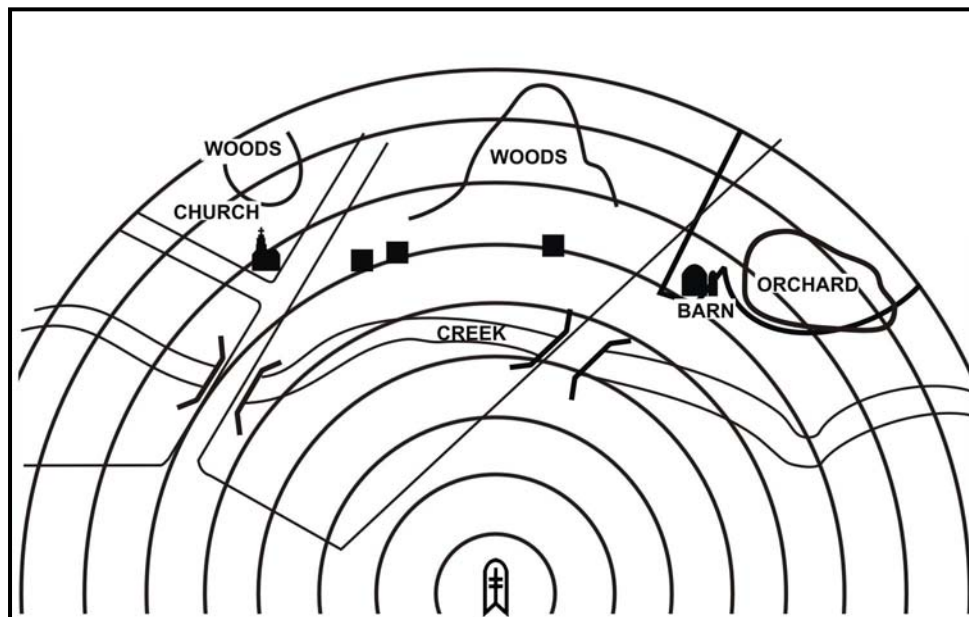

Figure D-5. Sector sketch.
The sector sketch section is a graphic representation of a gunner's sector of fire (Figure D-5). The sector sketch of the terrain should be a good representation since it becomes vital during periods of limited visibility.
a. **Sketches.** The sketch should cover the entire assigned sector if possible. Make the sketch as large as possible, but do not exceed the limits of the largest circle. When depicting large natural objects (forests, hills, and so forth) or man-made objects (buildings, bridges, and so forth), draw the outline of the object and label it appropriately (Figure D-5). When sketching objects in the sector, locate them on or near the corresponding circle to denote range to the object.